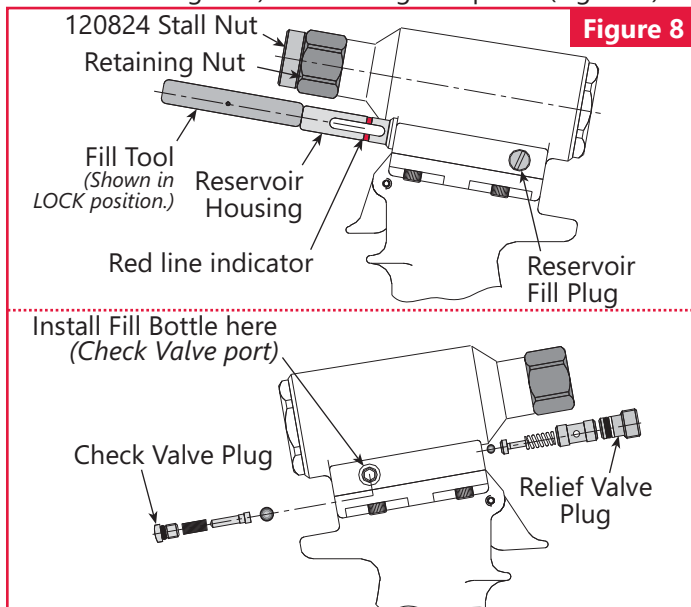

Figure 8
2. Remove the relief valve plug and the check valve plug (Figure 8), as well as all guides, springs, and balls, from the ports in the head. Re-insert the relief valve plug. (Figures 8 & 9)
1. Screw the Fill Tool into the reservoir plunger. Pull the plunger into the reservoir housing and lock Fill Tool in the full-forward position by tilting the handle (long side touching tool) and locking it in place. (Figure 8)
5. Insert the fill bottle in the fill port (check valve hole). (Figures 8 & 9)
NOTE: Do not allow air to re-enter the tool. When cycling the tool, hold the fill bottle as shown in Figure 8 to prevent drawing in air.